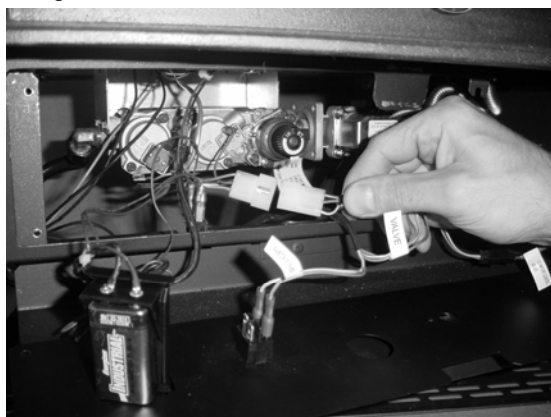

Figure 6
- 4 Disconnect the molex connector leading to the gas control valve (see Figure 6).